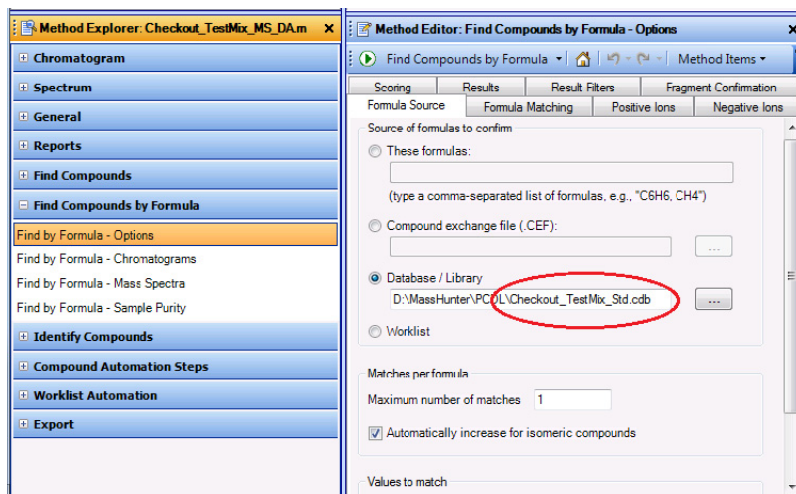

Figure 2 Find by Formula Method Editor Options (Custom Database)
- b Select the custom database **Checkout_TestMix_Std.cdb**. See Figure 2.